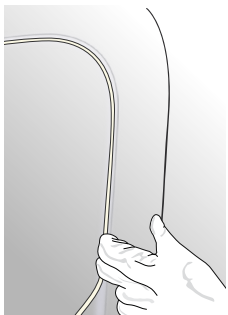

Figure 15
- ▶ Put on a glove and apply a strip of TIRODECO or WRAPKNIFE tape to the lower edge of the substrate to be wrapped, as close as possible to the deformation. (FIG. 15)